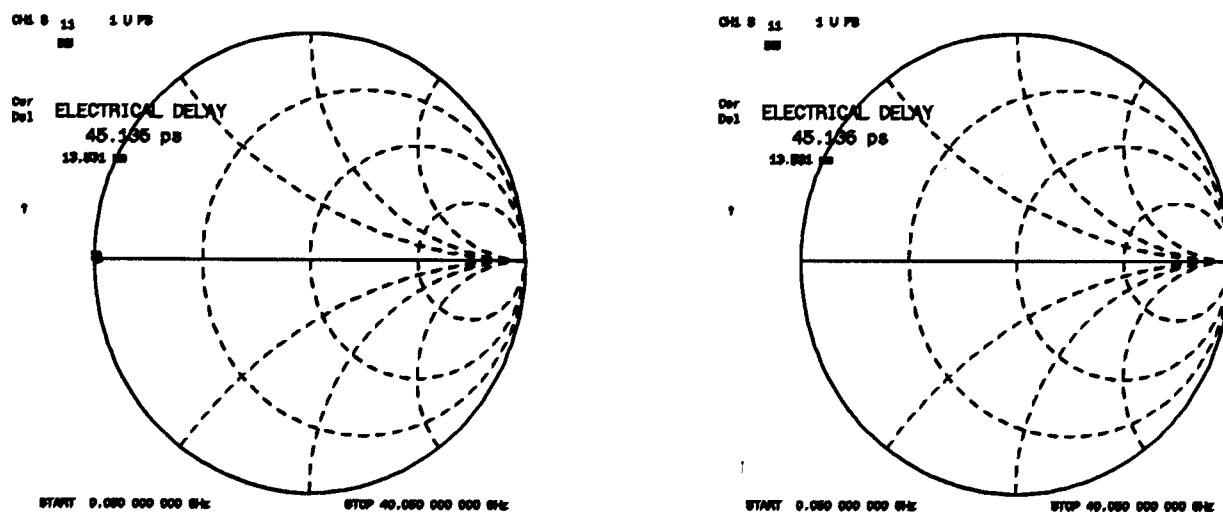

Figure 12-4. Typical Smith Chart Traces of Good Short (left) and Open
4. Connect the good open to port 1. Press **SCALE REF** **ELECTRICAL DELAY** and turn the RPG to enter enough electrical delay so that the trace appears as a dot at the right side of the circle (see Figure 12-4, right).